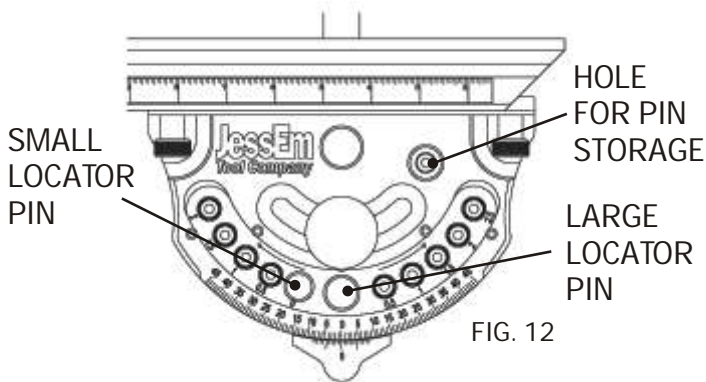

FIG. 12
12. To position the gauge at 90 degrees, place the small locator pin in the hole marked "0", just left of center. Place the large locator pin in the center hole (above the zero on the angle scale). The large locator pin can now also be used to locate positive stops at every five degrees left or right on the scale. Simply pull out the large locator pin and angle the fence to move the gauge in any five degree increment and then push the pin into your desired position (Fig. 12).
To use the gauge in a normal or manual miter gauge mode put the large locator pin in the pin storage hole (see Fig. 12).